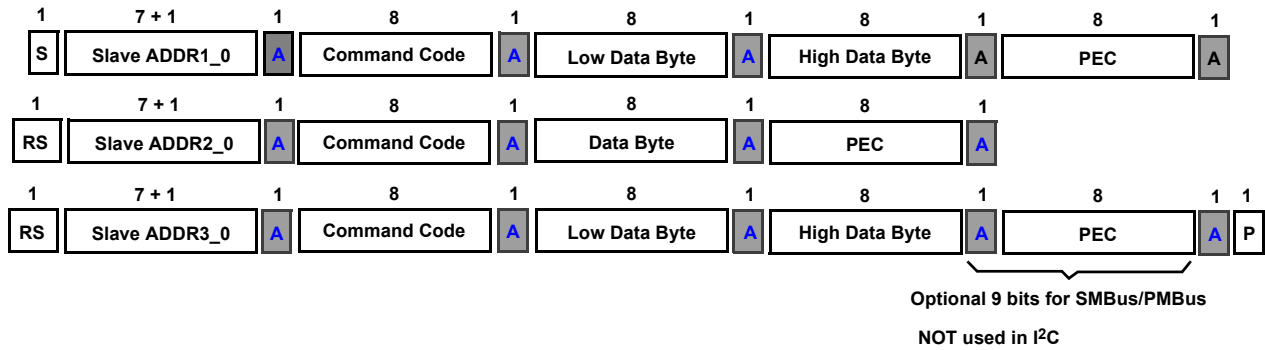

Figure 49. SMBus/PMBus/I2C Command Protocol
For proper operation, follow the SMBus, PMBus, and I2C protocol shown in Figure 49 on page 41. Note: the STOP (P) bit is NOT allowed before the repeated START condition when reading the contents of a register.